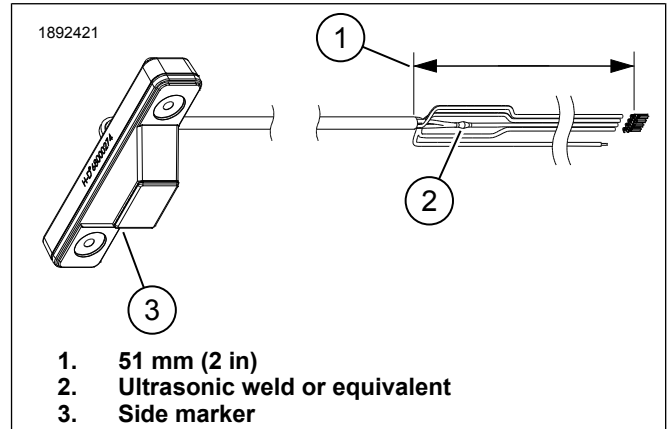

Figure 5. Harness Splice Dimensions
- a. See Figure 5. The splice should start 51 mm (2 in) above connector.